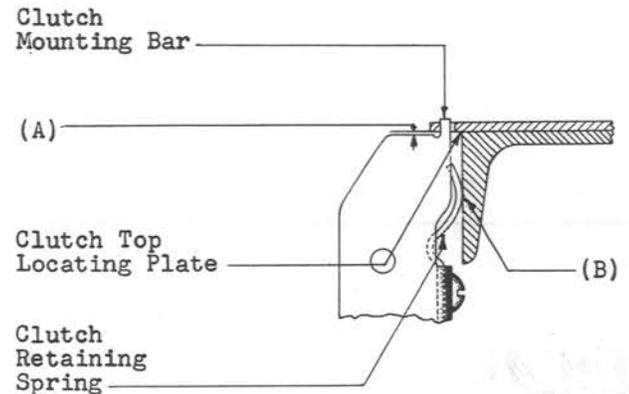

Fig. 6 - Clutch Location
- (b) Fig. 6 (A).
2.05 Clutch Retaining Spring Tension - Fig. 6 (B): The clutch retaining